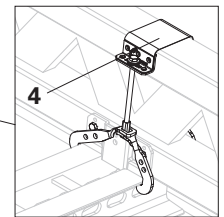

Fig. A2.03b
Hook Strap HBU (4) and Torx TSS and hex. wood screws M8 x 60. Position of the hex. wood screws M8 x 60: see Section A5. (Fig. A2.03b)